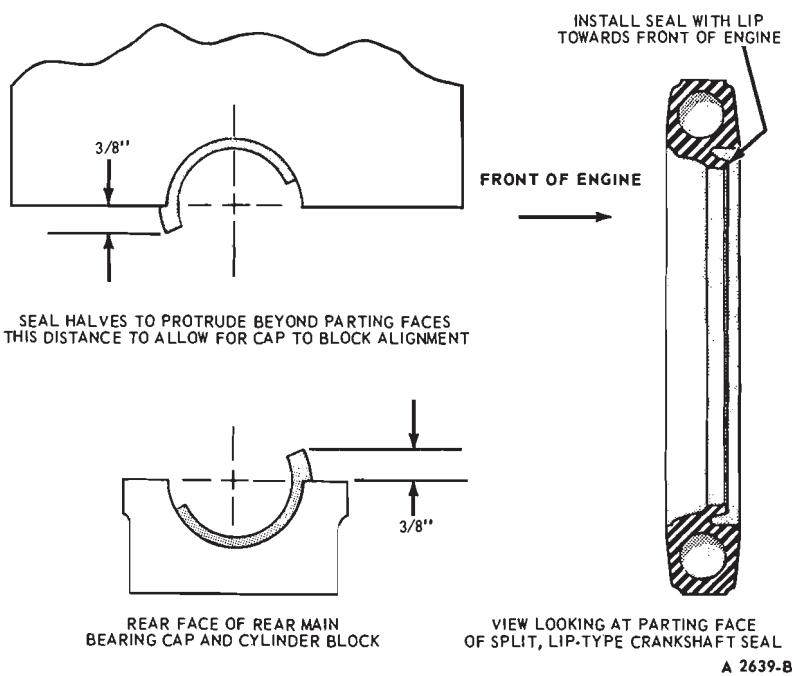

FIG. 31—Installing Crankshaft Rear Oil Seal
Carefully install the upper seal (split lip type) into its groove with the undercut side of the seal toward the FRONT of the engine (Fig. 31) by rotating it on the seal journal of the crankshaft until approximately 3/8 inch protrudes below the parting surface.
8. Install the lower seal in the rear main bearing cap with undercut side of seal toward the FRONT of the engine (Fig. 31), allow the seal to protrude approximately 3/8 inch above the parting surface to mate with the upper seal when the cap is installed.